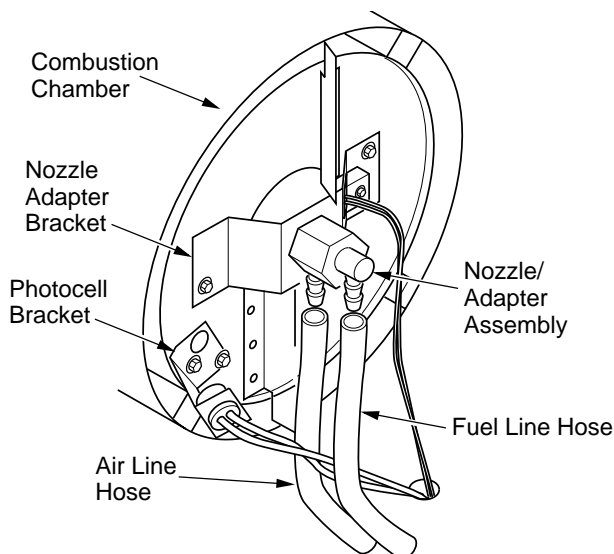
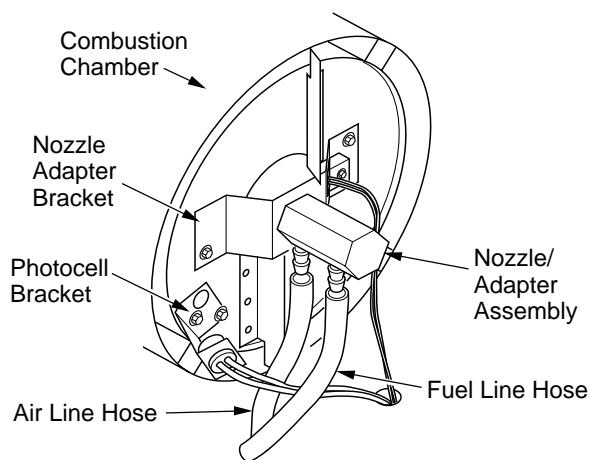
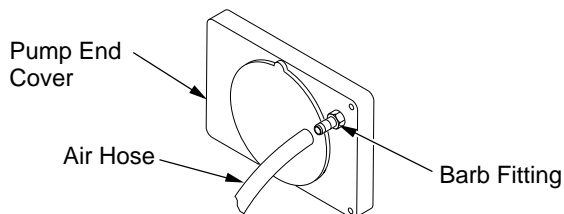

Figure 14 - Removing Air and Fuel Line Hoses (125T and 170T Models Only)
Figure 17 - Removing Air and Fuel Line Hoses (200T Model Only)
Figure 19 - Air Hose to Barb Fitting
14. Replace photocell in photocell bracket. Route wires as shown in either Figure 14, page 11.
3. Remove fuel and air line hoses from nozzle assembly (see Figure 14).
3. Remove two nozzle adapter bracket screws (see Figure 17).
- Inspect fuel and air line hoses for cracks and/or holes. If fuel line hose is damaged, disconnect from nozzle adapter (see Figure 14 or Figure 17 according to model, page 11) and from fuel filter (see *Fuel Filter*, page 9). If air line hose is damaged, disconnect from nozzle adapter (see Figure 14 or Figure 17 according to model, page 11) and from barb fitting on pump end cover (see Figure 19).
- Install new air and/or fuel line. Attach one end of air line hose to barb fitting on pump end cover (see Figure 19) and the other end to nozzle adapter (see Figure 14 or Figure 17 according to model, page 11). Attach one end of fuel line hose to fuel filter (see *Fuel Filter*, page 9) and the other end to nozzle adapter (see Figure 14 or Figure 17 according to model, page 11).
Note: Route hoses as shown in Figure 14 or Figure 17 according to model, page 11. Hoses are not to touch photocell bracket.